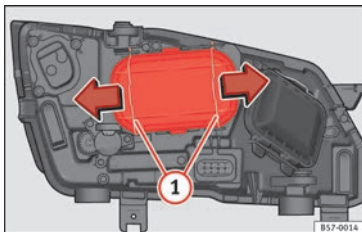

Fig. 102 In the engine compartment: remove the lid.
2. Move the loops » **Fig. 102** **1** in the direction of the arrow and remove the cover.